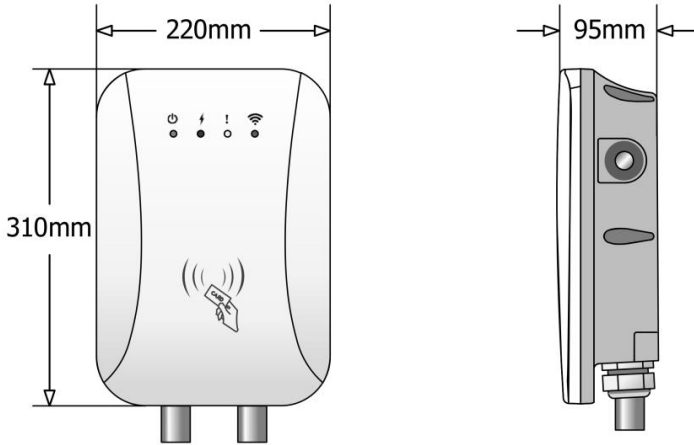

Fig. 4-1 The shape & dimensions of M3P series
- The shape & dimensions of AC EV charging station shown as Fig. 4-1.